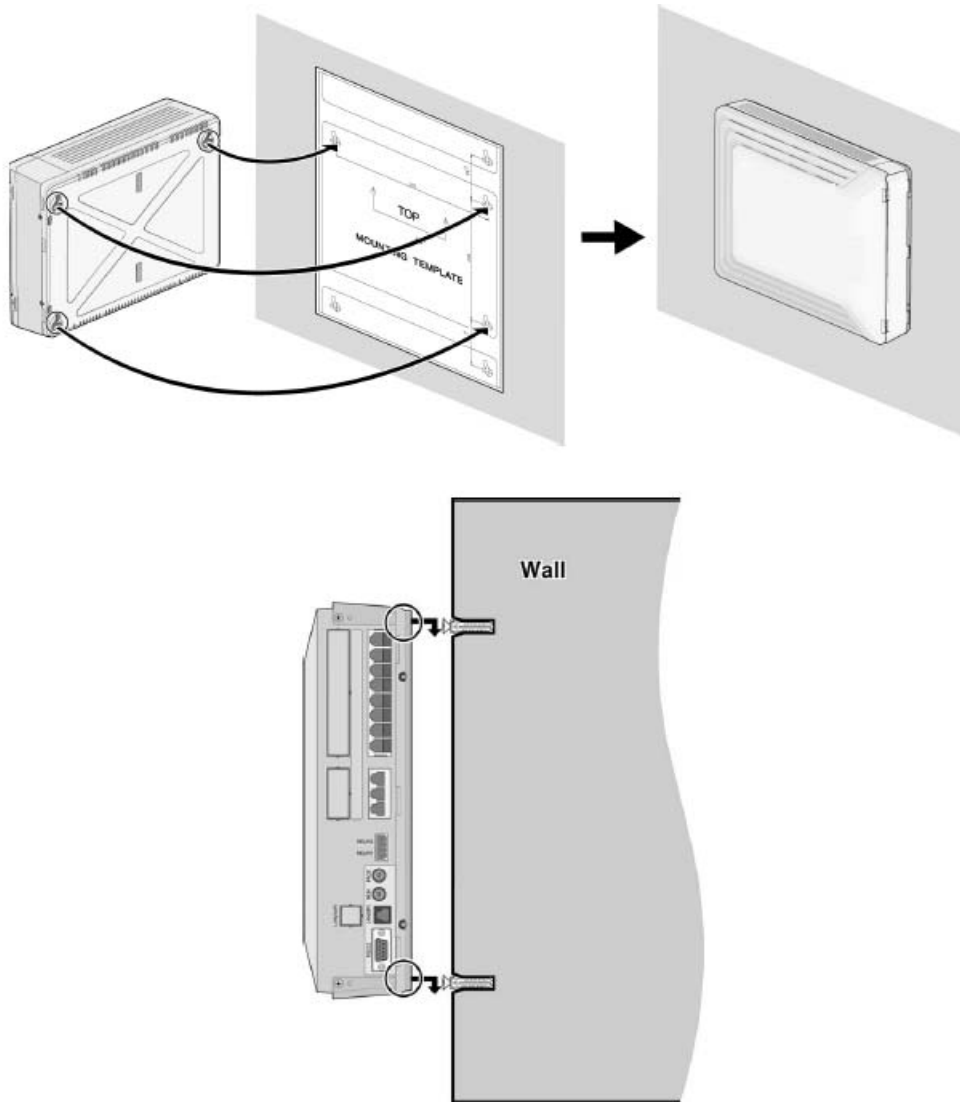

Figure 3-6 Wall Mounting the KSU
3. Hook the KSU onto the screws, making sure that the system slides down securely, as shown in Figure 3-6.